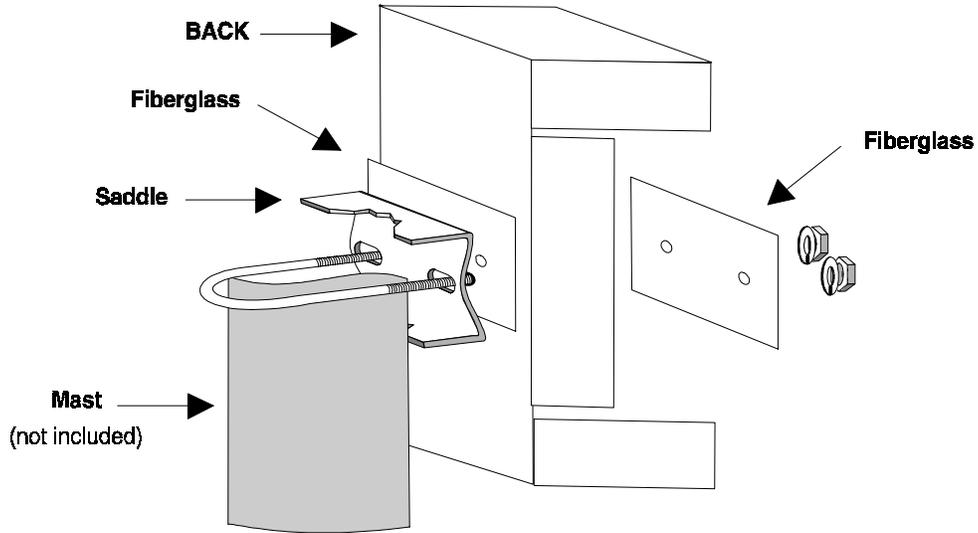

Figure 7 U bolt assembly with fiberglass plates.
- C. Slide one of the fiberglass plates on the U bolt until it is against the saddle. Insert the U bolt through the plastic bushings on the back of the base. Be sure the plastic bushings remain in place. See Figure 7.